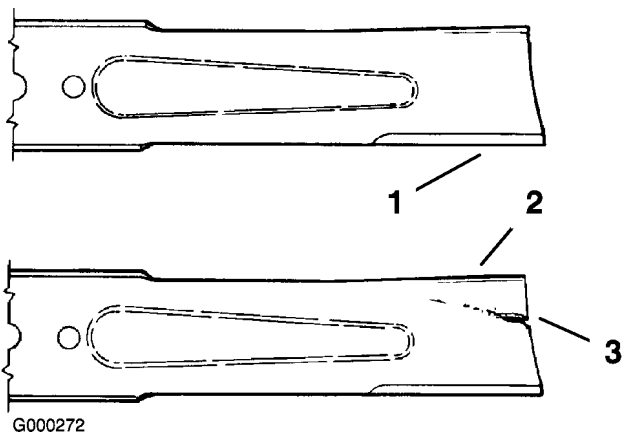

Figure 76
1. Inspect the cutting edges (Figure 76). If the edges are not sharp or have nicks, remove and sharpen the blades. Refer to Sharpening the Blades.
2. Inspect the blades, especially the curved area (Figure 76). If you notice any damage, wear, or a slot forming in this area (Figure 76), immediately install a new blade.